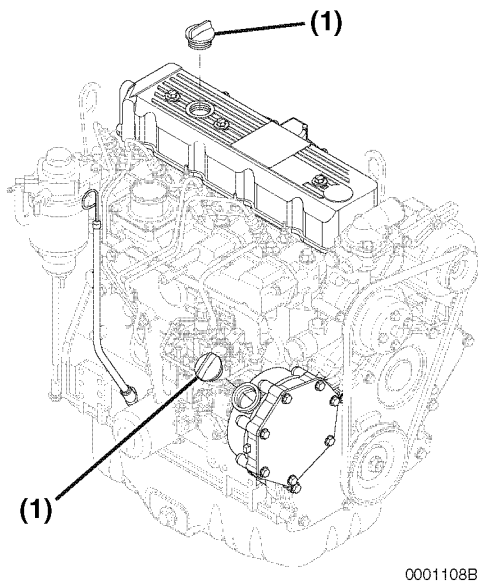

Figure 5-9
4. Remove the oil filler cap (**Figure 5-9, (1)**) to vent the engine crankcase and to allow the engine oil to drain more easily.